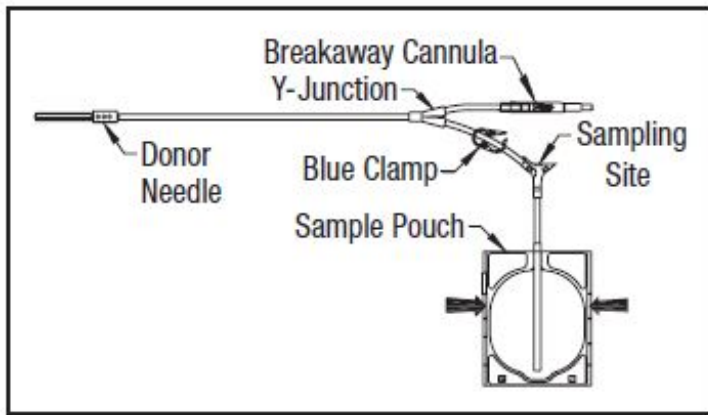

Figure 1
- **Do not use the product if the in-line cannula is broken and/or anticoagulant is present in the sample pouch or in the tubing from the in-line cannula to the sample pouch and donor needle (see Figure 1). Note that condensation in the empty tubing of the Blood-Pack unit is expected as a result of the sterilization process.**
- **If less blood sample volume is required, the flow to the sample pouch may be stopped prior to completely filling the pouch. For example, in order to target a fill volume of approximately 40 mL, fill to the level indicated by the arrows in Figure 1. Ensure the pouch is hanging vertically.**